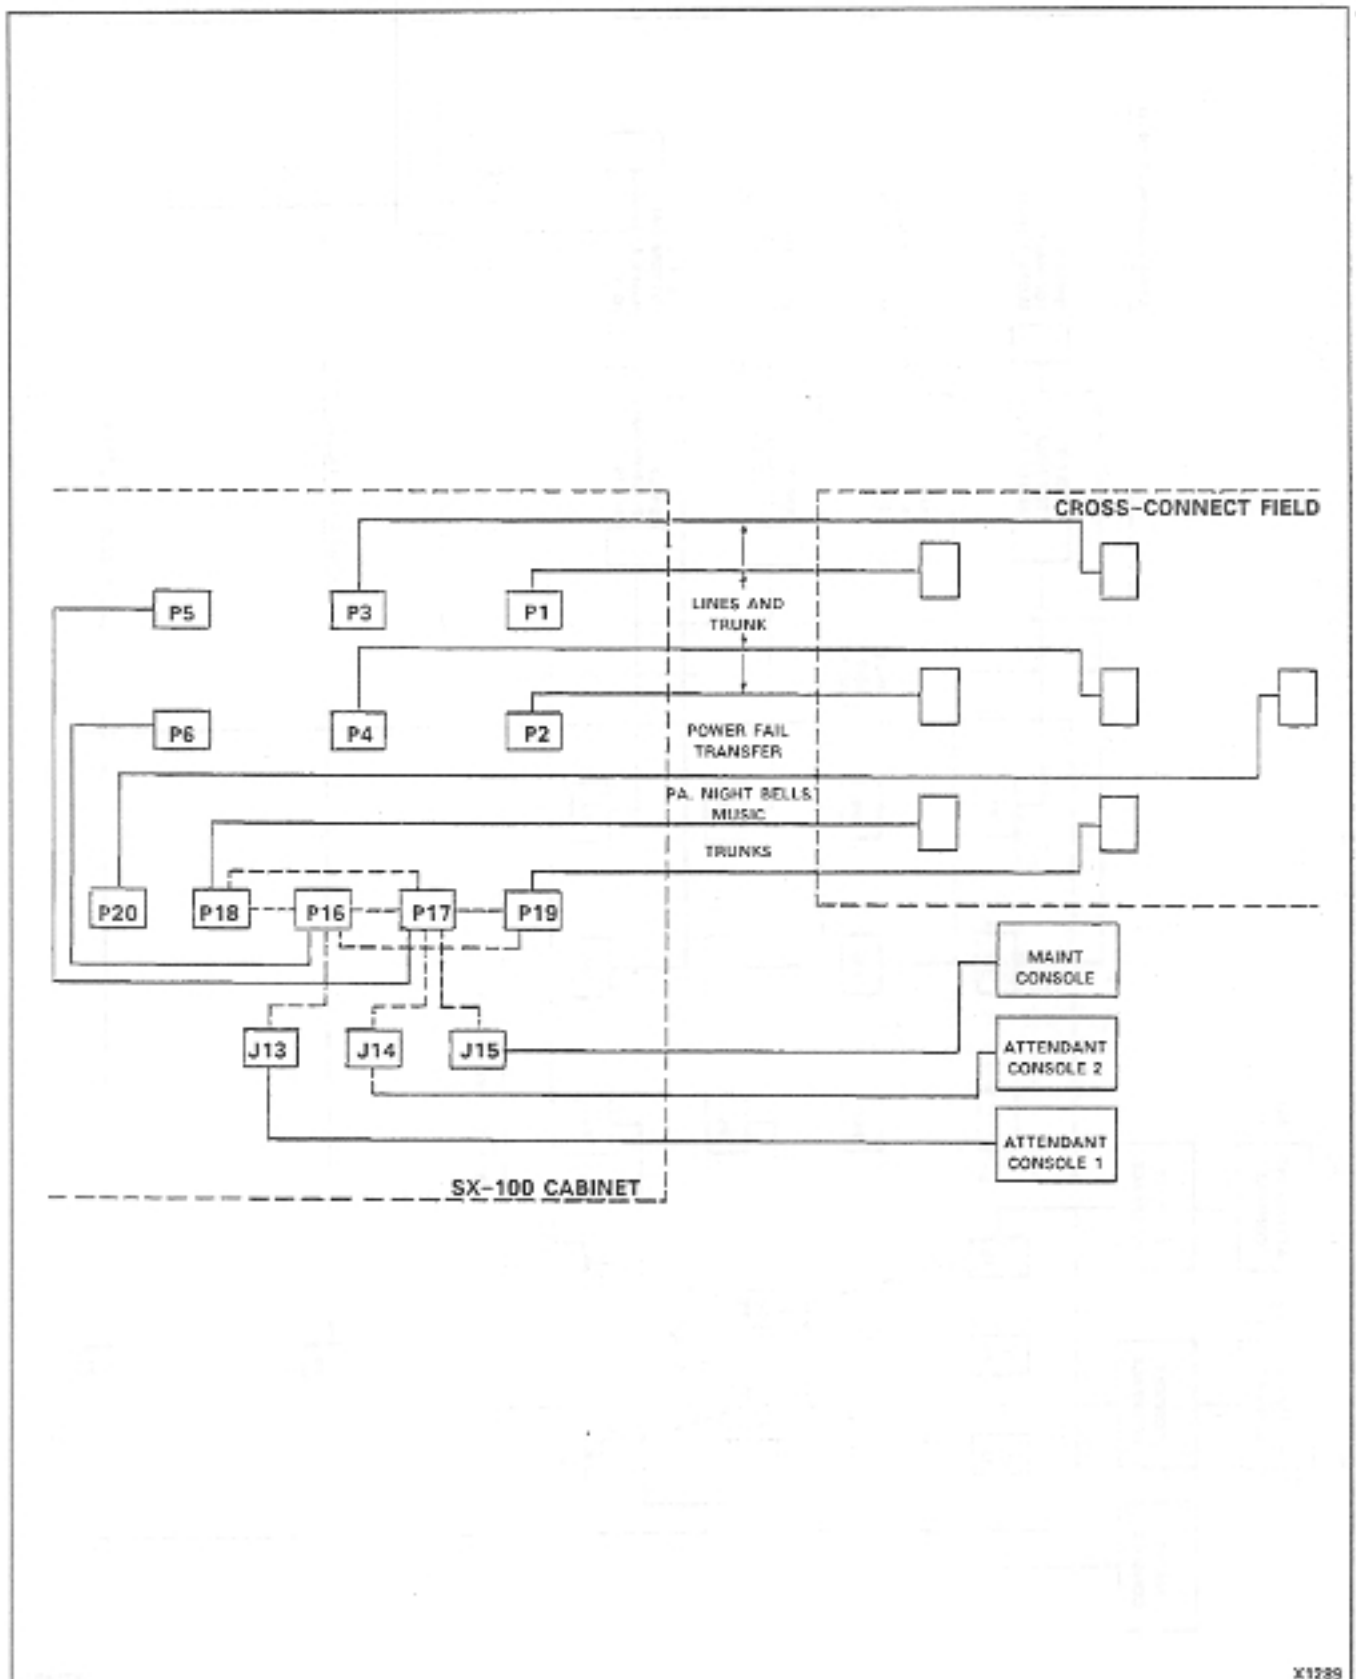

Fig. 6-3 Overall Cable Plan, SX-100
6.09 Section MITL9105/9110-096-200-NA gives full details of the requirements for interconnection of cables between the building cross-connect terminal and the connector locations in the rear of the cabinet (Figs. 6-3 and 6-4). This includes the power fail transfer connections between the cabinet and the cross-connect terminal.